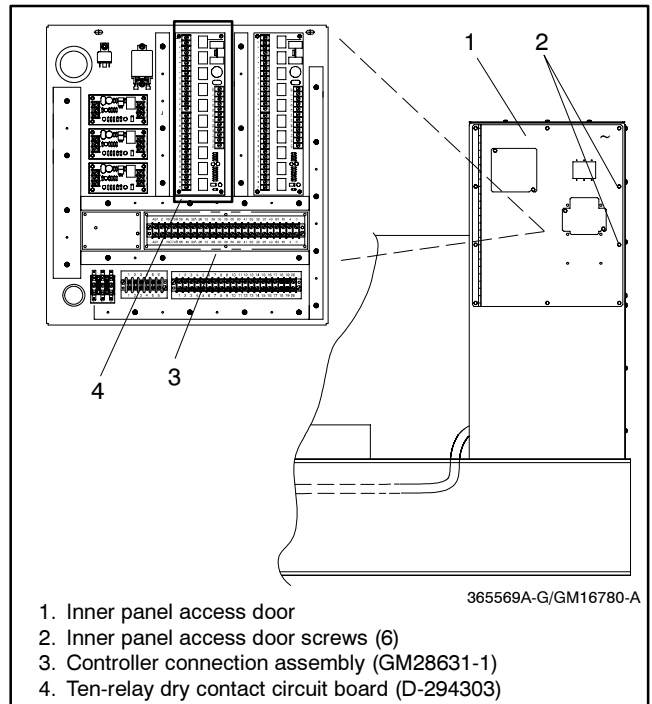

Figure 1 Junction Box Terminal Block Bracket Mounting
The ten-relay dry contact kit provides normally open and normally closed contacts in a form C configuration to activate warning devices and other user-provided accessories allowing remote monitoring of the generator set. Connect up to ten controller fault outputs to the ten-relay dry contact kit. Typically, lamps, audible alarms, or other devices signal the fault conditions. See Figure 1 for an illustration of the ten-relay dry contact kit.
- 2.1 Remove the junction box upper rear panel and hardware. See Figure 1.
- 2.3 Attach controller connection assembly (GM28631-1) to junction box bracket using two screws (X-49-6) and whiz nuts (X-6210-3). The controller connection assembly includes terminal strip (328913), strip marker (328914), and wiring harness (GM10177). See Figure 1 for mounting location.
- 3.1 Mount the ten-relay dry contact circuit board (D-294303) on the junction box bracket studs using six spacers (X-712-9) and nuts (X-70-12). Place the spacers between the ten-relay dry contact circuit board and the mounting bracket. See Figure 1 for the mounting location.